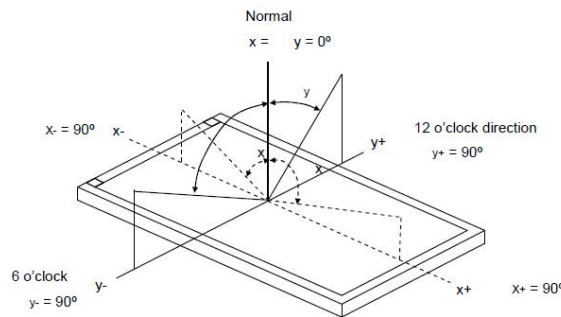

Figure 10. Definition of Viewing angle
(6) Definition of Viewing angle:
As CR definition stated in Note (4), the viewing angles are defined when the viewing angle is larger than 10° in four directions relative to the perpendicular direction of the HKC's module (two vertical angles: up θ_{y+} and down θ_{y-} ; and two horizontal angles: right θ_{x+} and left θ_{x-}). The standard setup of measurement is shown in Figure 10.